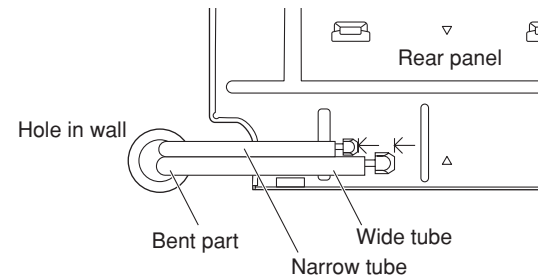

Fig. 38
- (1) Lead the tubing and drain hose through the wall, allowing sufficient length for connection. Then bend the tubing using a tube bender to make the attachment. (Fig. 38)
- (2) Switch the drain hose and drain cap.